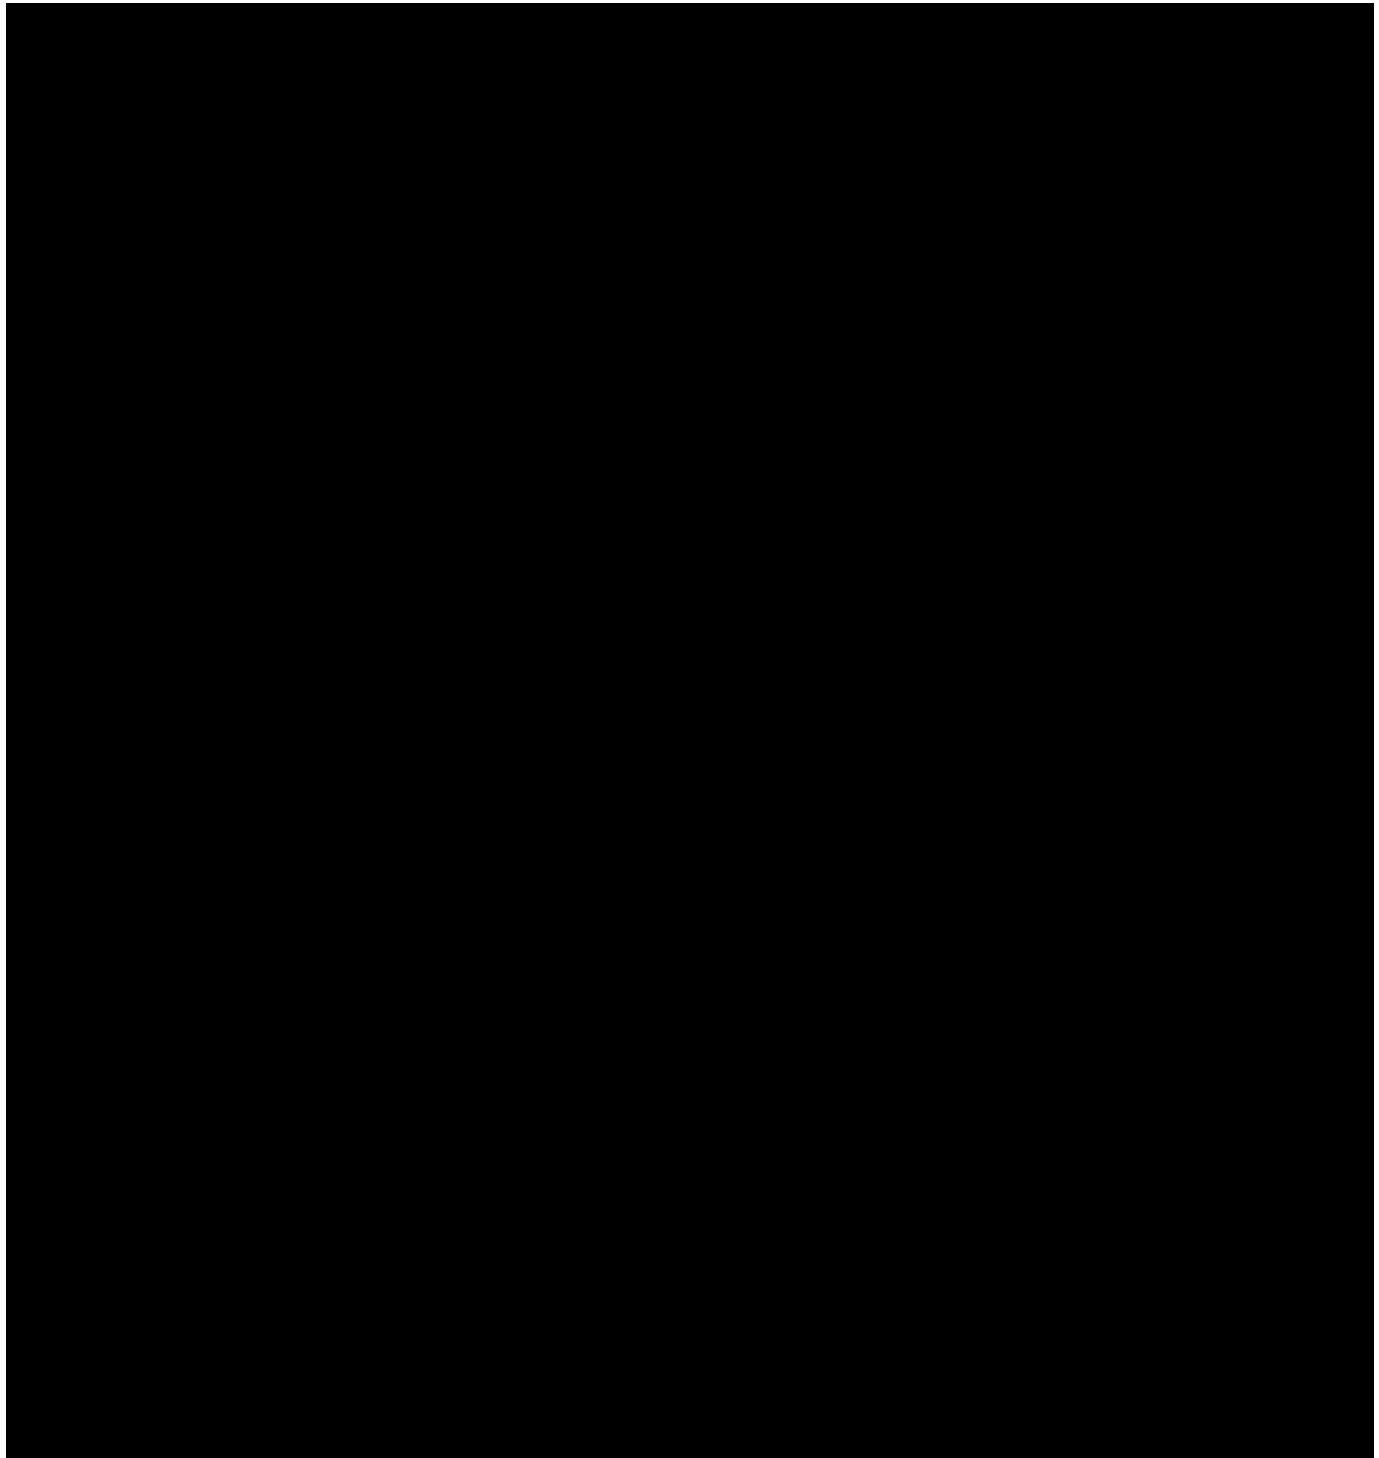

Figure 2
- 10.19 Extract wire #33410A16 from position 8 of J2400-01 using amp 305183 tool. Removal of the connector mounting bracket (refer to Figure 2) may provide better visibility and access for the extraction tool.
- 10.20 Cut the cable ties from J2400-01 back to ground stud #08. Route wire #33410A16 back to ground stud #08. Cut to length and attach ring terminal (P/N 36157) to the wire. Do not attach to ground until the instrument panel harness is installed. Refer to Figure 2.
- 10.21 Remove the mounting hardware from the aft most relay. Connect and mount the new relay through the same mounting hole as shown in Figure 2.
- 10.28 Disconnect wire #33409A16 from the existing TAXI/MAP circuit breaker. Cut the cable ties from the circuit breaker back to the relay mounting location shown in Figure 2.
- 10.29 Install the recognition light instrument panel harness (Figure 2).
- 10.31 Cut wire #33409A16 to length and terminate the wire with the diode into the Faston crimp P/N 3-350820-2 (refer to Figure 2).